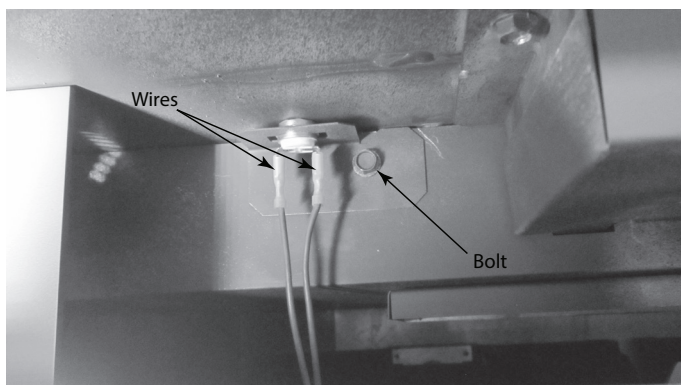

Figure 4.38 Snap Disc Replacement
6. Install the new snap disc in the bracket and reinstall in the fireplace. See Figure 4.38.